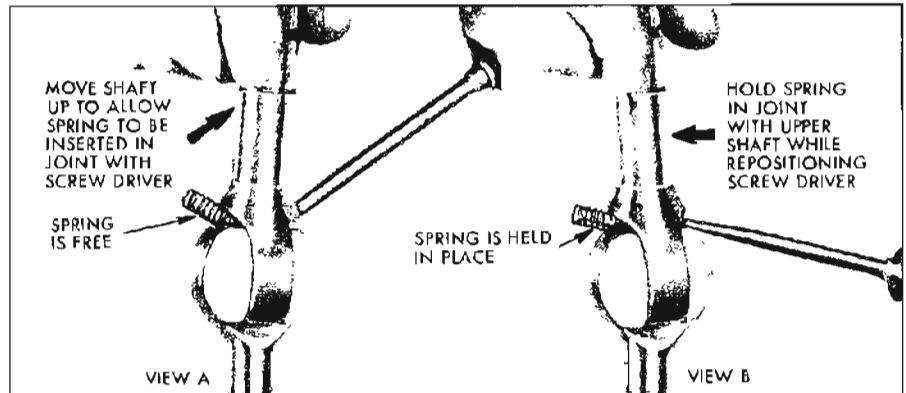

Figure 8-88—Installing Joint Preload Spring
8. Insert the joint preload spring through centering spheres into lower shaft. Using the upper shaft to hold the spring in place and a screwdriver in the other hand, carefully feed spring into shaft joint. See Figure 8-88.